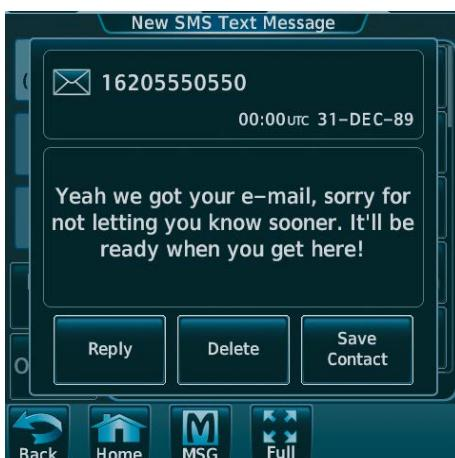

Figure 8-60 Message Content
- 2) Touch the desired text message in the Inbox list as in Figure 8-59. If necessary, scroll to the desired message. The text message is displayed as in Figure 8-60.